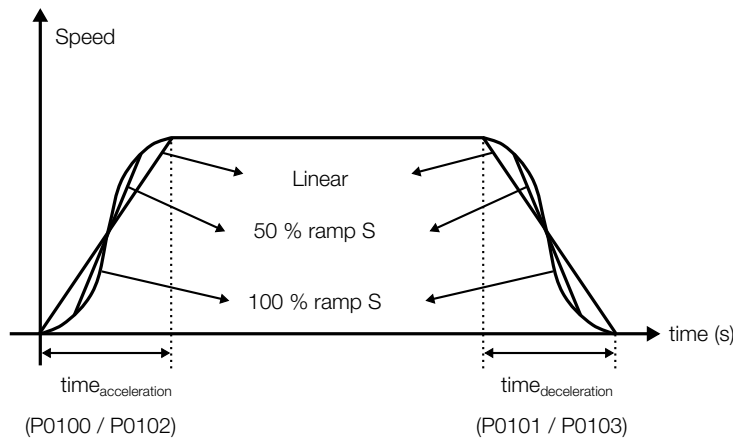

Figure 5.3: S or Linear Ramp
- See Figure 5.3 on page 5-12 .